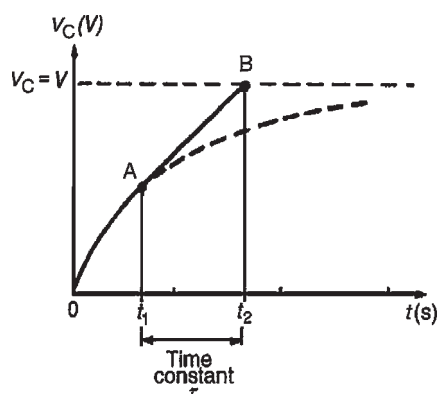

Figure 20.3
- (b) With reference to Fig. 20.3, let the constant voltage supply be replaced by a variable voltage supply at time t_1 seconds. Let the voltage be varied so that the **current** flowing in the circuit is **constant**.